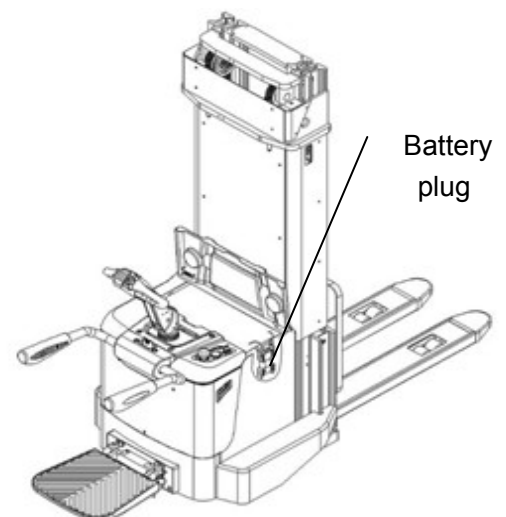

Fig.14: Battery charging
Park the truck securely and switch off the stacker with the key (13) and activate the emergency button (11). Open the battery cover and pull out the hinge. Then remove the battery cover, unscrew and remove the battery fixing plate, pull out the battery plug (Fig.14), and take the batteries out with a crane. The installation is in the reverse order of the removal. Please connect the positive terminals firstly. Otherwise the tuck could be damaged.